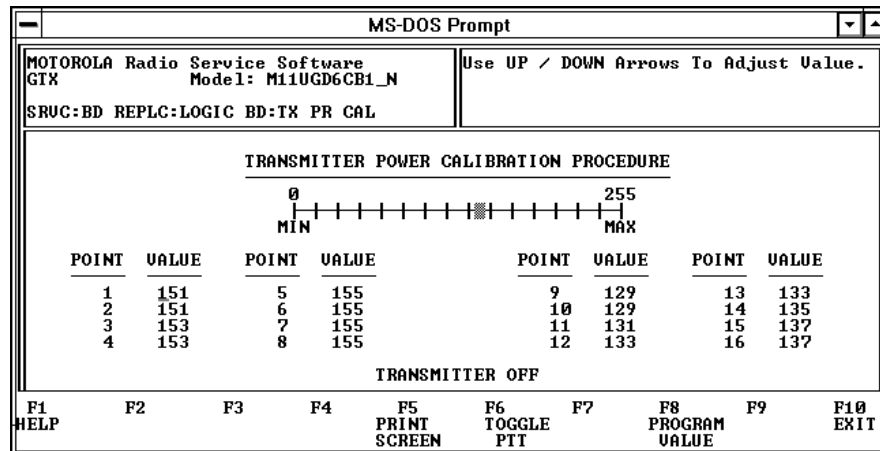

Figure 11.9 – Transmitter Power Calibration
1. Press F5, "Set TX POWER CALIBRATION" from the board replacement menu. The transmitter power calibration procedure is shown in Figure 11.9.